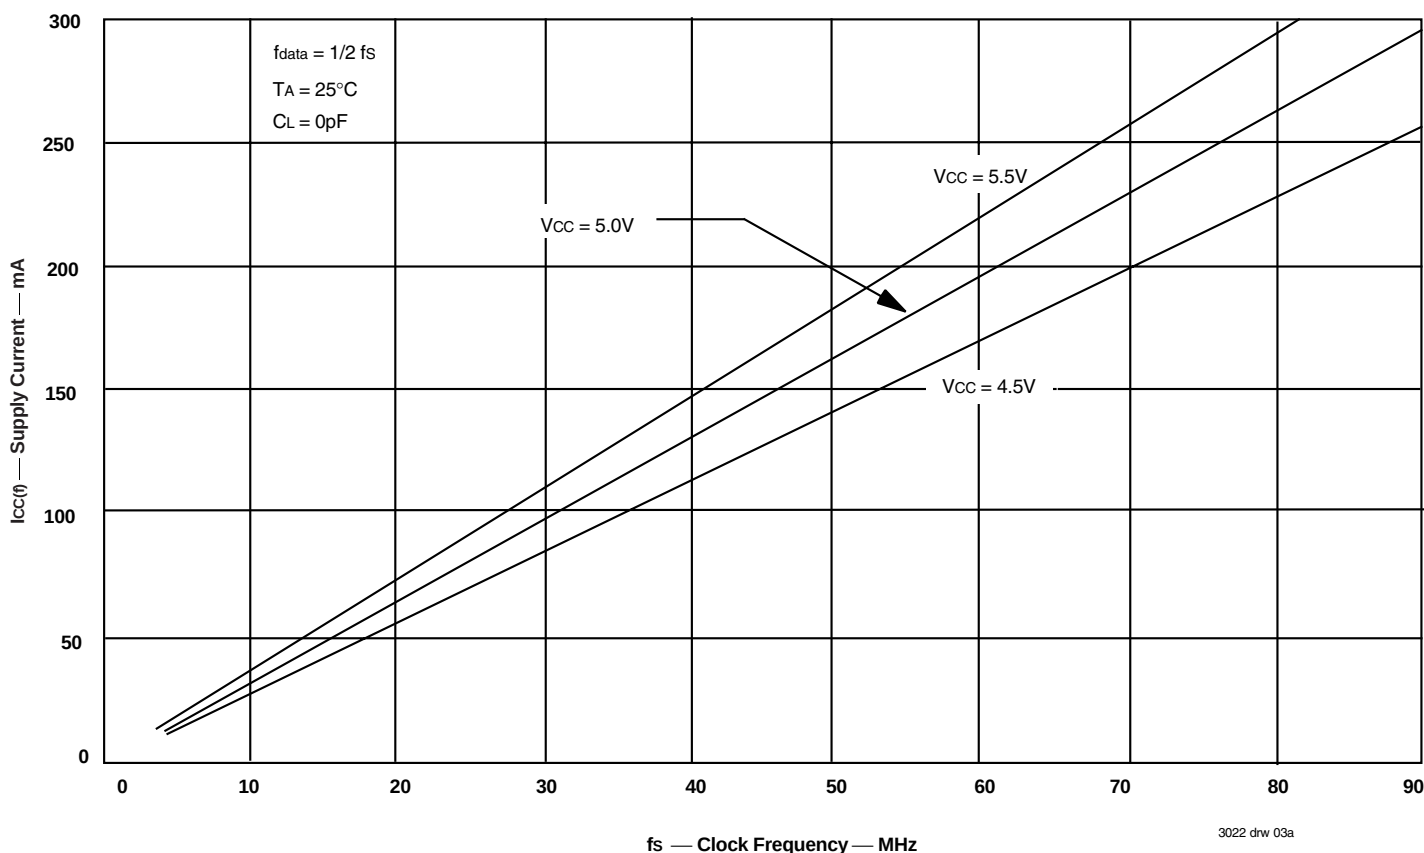

Figure 1. Typical Characteristics: Supply Current (I_{CC}) vs Clock Frequency (f_s)
- For additional I_{CC} information, see Figure 1, *Typical Characteristics: Supply Current (I_{CC}) vs. Clock Frequency (f_s)*.
The $I_{CC(f)}$ current for the graph in Figure 1 was taken while simultaneously reading and writing a FIFO on the IDT723622/723632/723642 with CLKA and CLKB set to fs. All data inputs and data outputs change state during each clock cycle to consume the highest supply current. Data outputs were disconnected to normalize the graph to a zero capacitance load. Once the capacitance load per data-output channel and the number of these device's inputs driven by TTL HIGH levels are known, the power dissipation can be calculated with the equation below.
With $I_{CC(f)}$ taken from Figure 1, the maximum power dissipation (P_T) of these FIFOs may be calculated by: